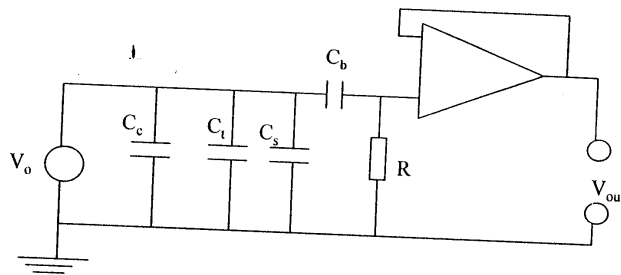

Figure 1: Voltage follower circuit
- (c) A voltage follower circuit driven by a piezoelectric transducer is given in Figure 1 below. Show that in this circuit, the voltage sensitivity of the piezo is $S_v = S_q/C$. [5]